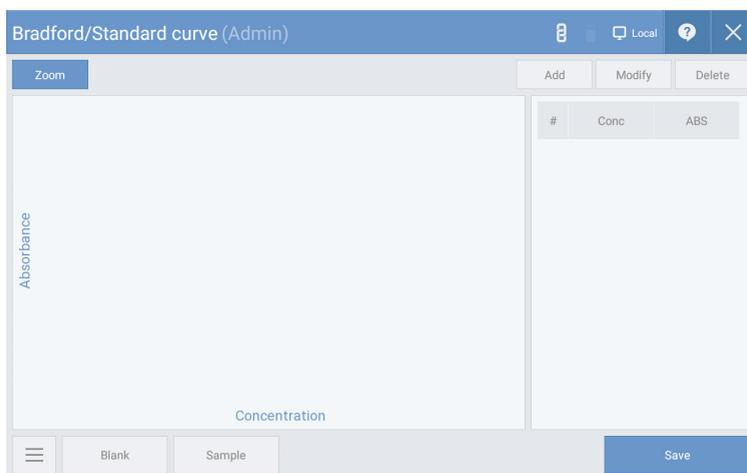

Fig. 3.4
2. [Fig. 3.4] Click the "Settings" button at the bottom of the screen to set the measurement environment.
3. Click the "Add" button in [Fig. 3.4] to enter the concentrations of the standard samples to measure.